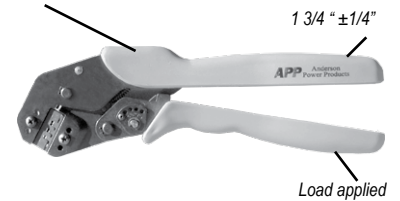

Figure 5
1. Measure current tool preload force by placing the end of one of the handles on a scale and pushing the other grip until the ratchet releases. The amount of force should be measured 1 3/4 inches from handle end as shown (See Figure 5).